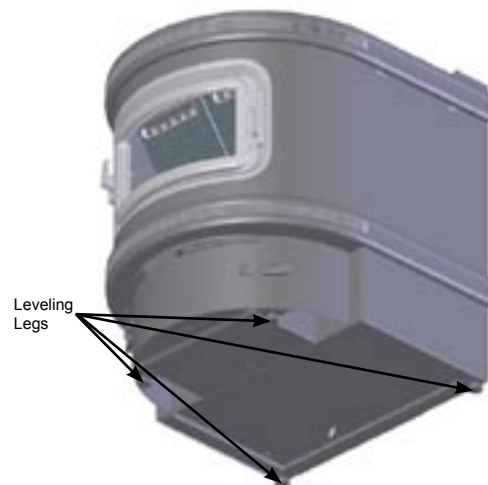

Figure 4
2. Locate the leveling feet on the bottom of the Room Heater. See Figure 4.